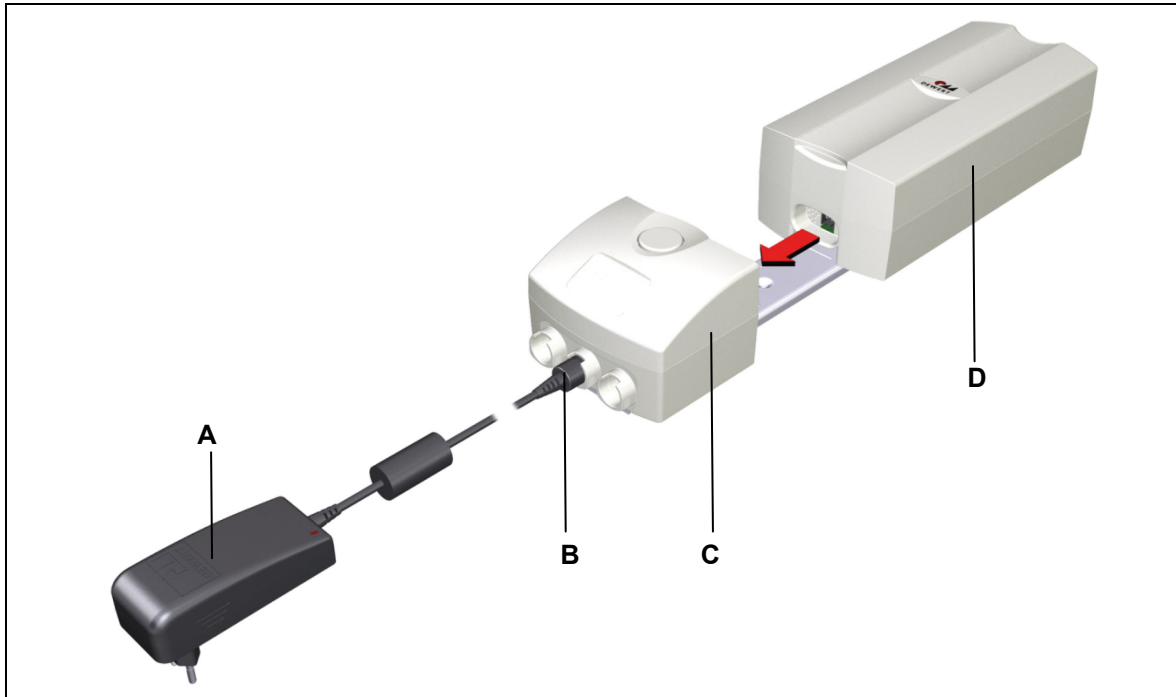

Figure 20 Charging the ACCU AC 4.5 and ACCU AC 4.5DC at the charging station
- 5 Connect the PLUG-IN CHARGER PB 4.5 to the charging station (as shown in Figure 20).